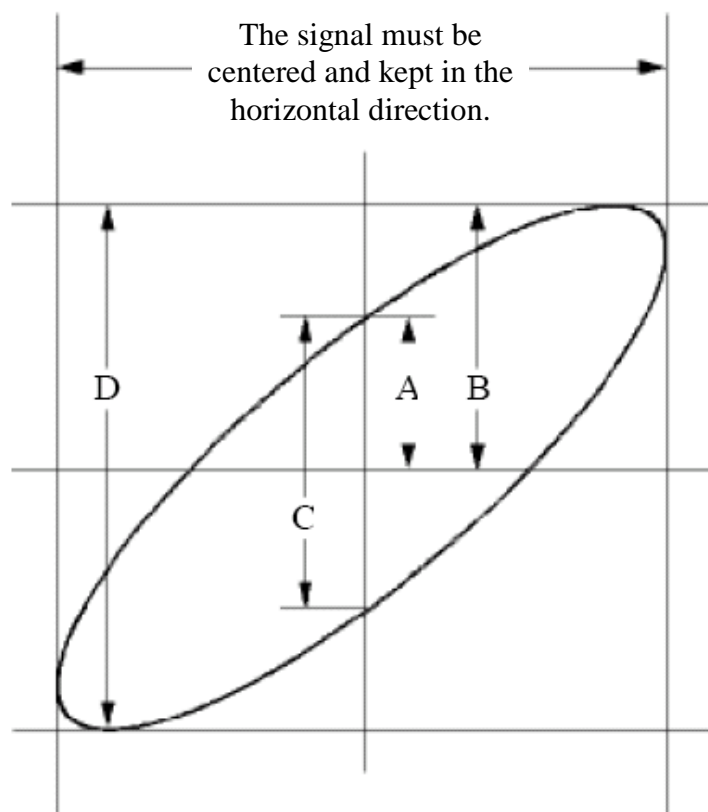

Figure 7-6 Lissajous Graph
- (1) Set the probe menu attenuation coefficient for **10X** and that of the switch in the probe for **10X** (see "*How to Set the Probe Attenuation Coefficient*" on P11).
- (2) Connect the probe of channel 1 to the input of the network and that of Channel 2 to the output of the network.
- (3) Push the CH1 and CH2 button to turn on CH1 and CH2.
- (4) Push the **Autoset** button, with the oscilloscope turning on the signals of the two channels and displaying them in the screen.
- (5) Push **CH1** button to select CH1, turn the lower knob, and then push **CH2** button to select CH2, turn the lower knob, making the amplitudes of two signals equal in the rough.
- (6) Click  to call up the menu panel. Click the **XY** softkey on panel to switch to the **ON** state. The oscilloscope will display the input and terminal characteristics of the network in the Lissajous graph form.
- (7) Turn the upper and lower knobs, optimizing the waveform.
- (8) With the elliptical oscillogram method adopted, observe and calculate the phase difference (see *Figure 7-6*).